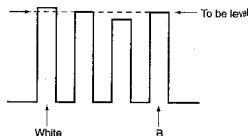

Fig. 3-12
- Change the signal of 75% color bar, and adjust the SUB CHROMA so that the TP305 (B OUT) white level and the B level will be the same. (Fig. 3-12)